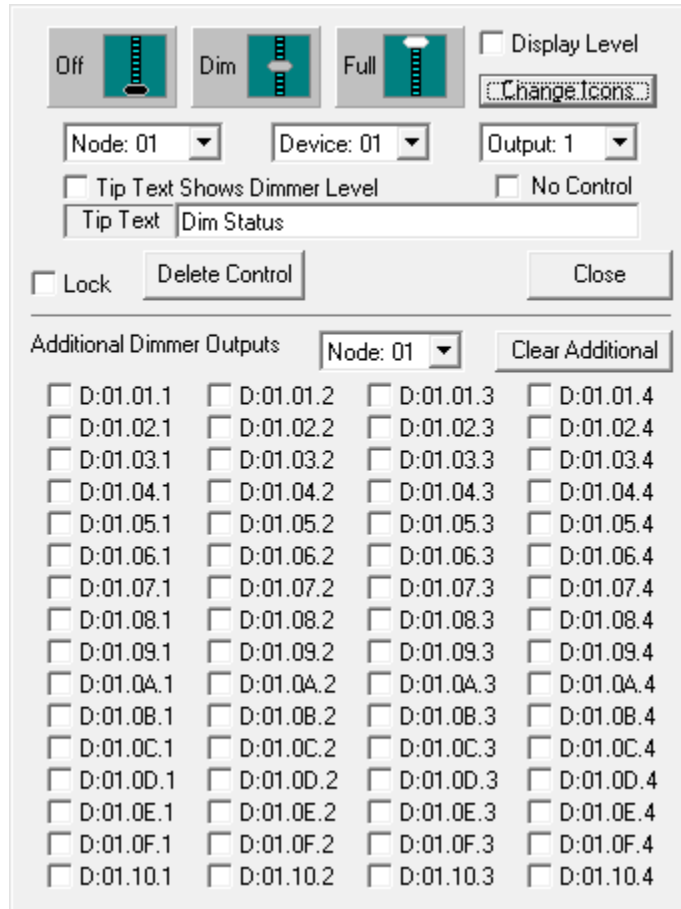

Figure 2.11 Defining a Dimmer Control
3. Right click on the new Dimmer Control Icon to begin defining its appearance and control as shown in figure 2.11.